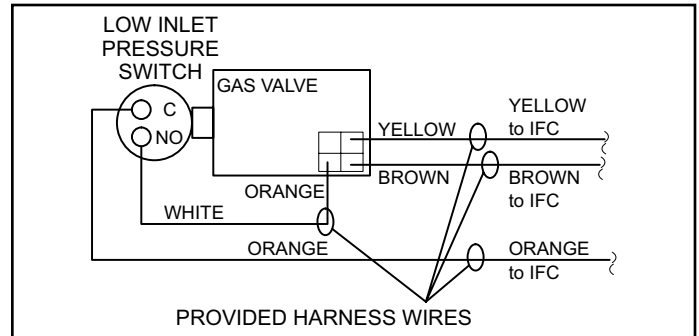

Figure 13. Low Inlet Pressure Switch Point-to-Point Wiring Diagram (Resideo Gas Valve)
- b. Connect the low inlet pressure switch in series between the adapter harness and the unit harness (IFC). Wire as shown in Figure 13.